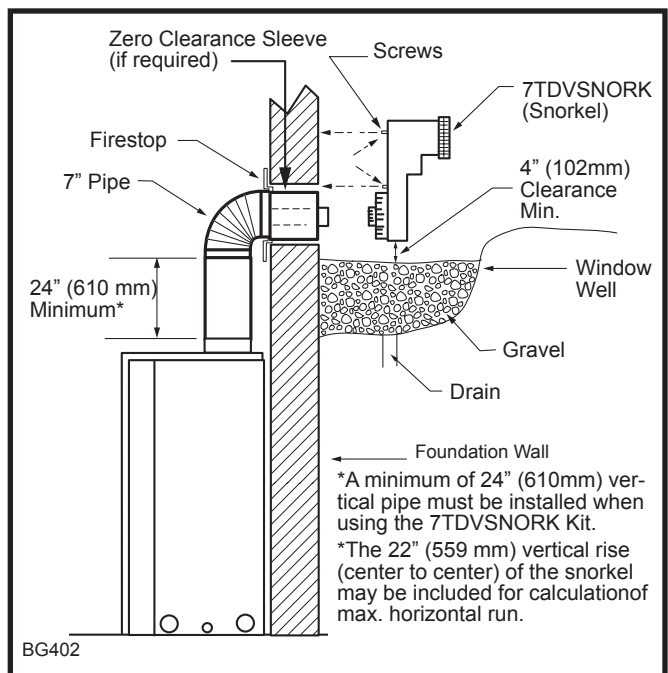

Fig. 24 Below grade installation.
7. Level the soil to maintain a 4" (102 mm) clearance below snorkel. (Fig. 24)